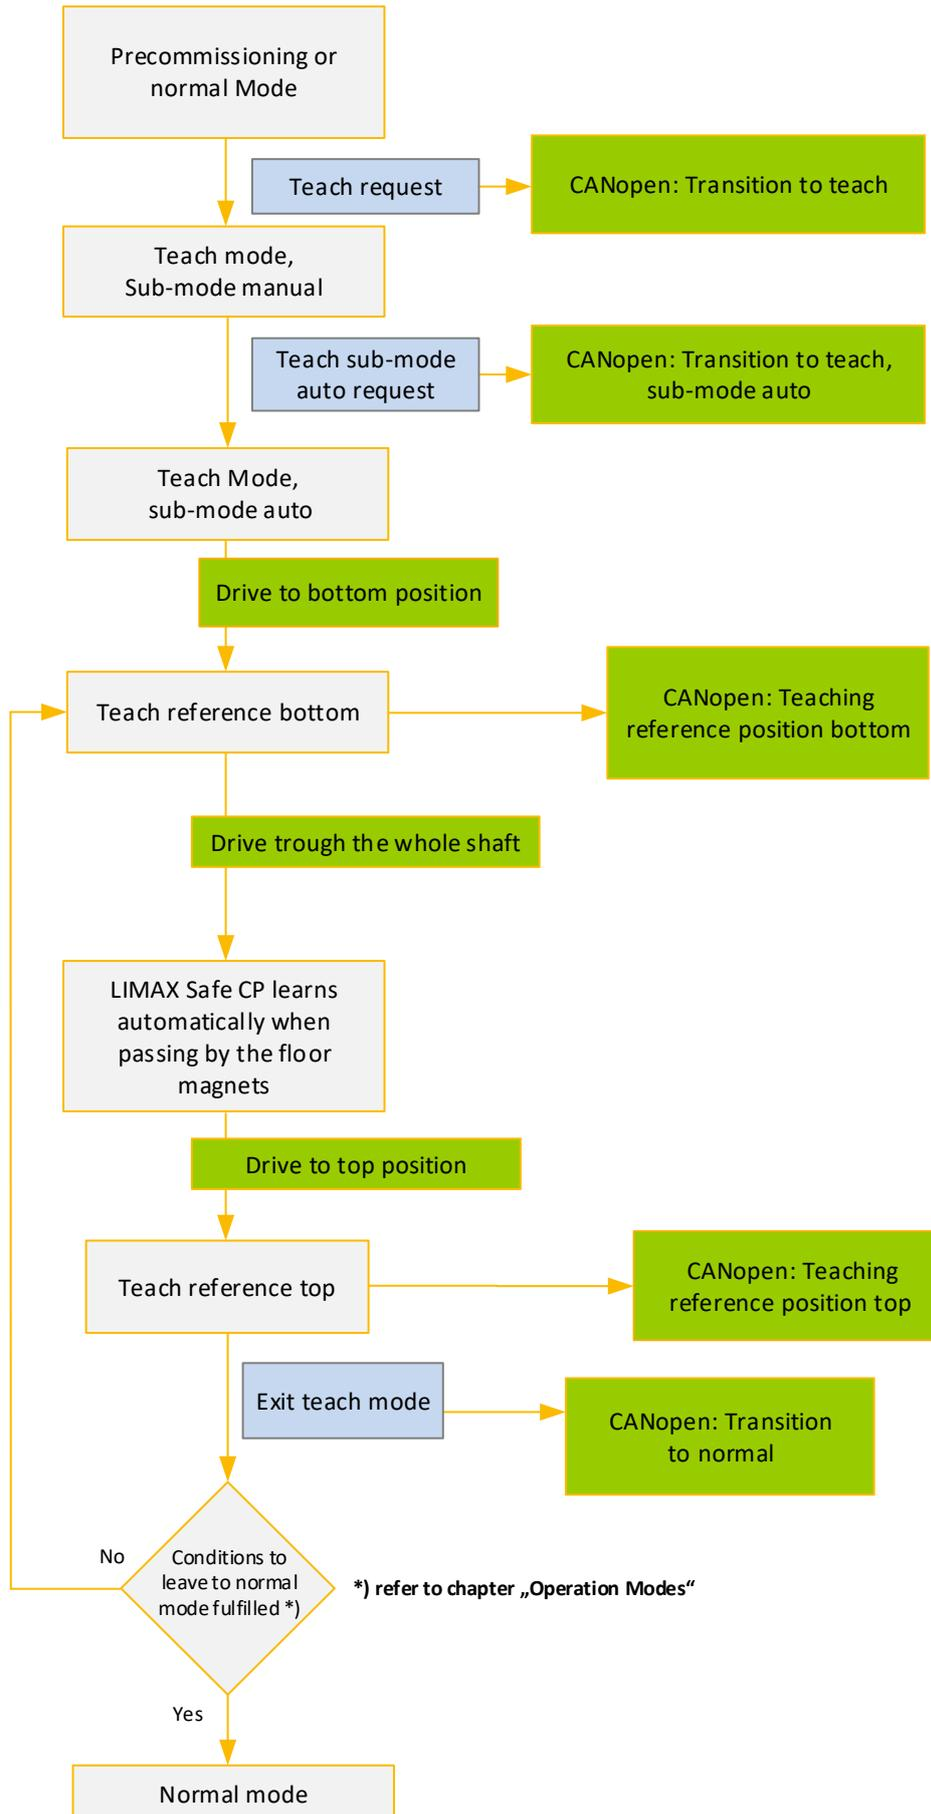

Figure 17: Time-saving flow of events in teach mode auto
- and then the other reference position is learned, the time for one travel through the whole shaft can be saved (flow of events similar to Figure 17).
If the teaching process follows Figure 17 (see next page), it is only necessary to move one and a half time through the whole shaft: